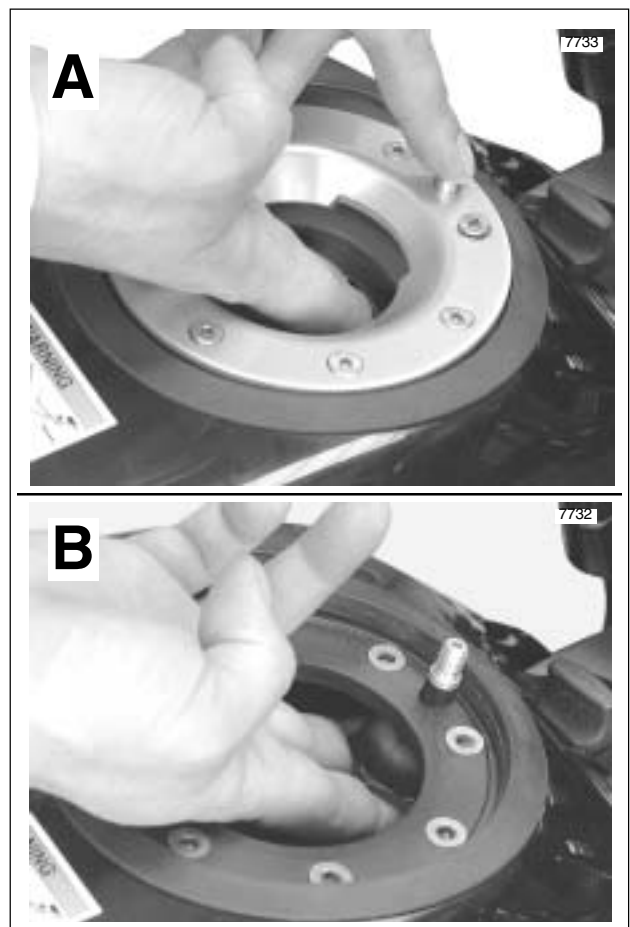

Figure 4-8. Remove Rollover Valve
8. See Figure 4-8. Keeping fingers at bottom of rollover valve, push on threaded end to remove from holes in fuel cap flange and boot. Remove fuel cap flange and boot from fuel tank.